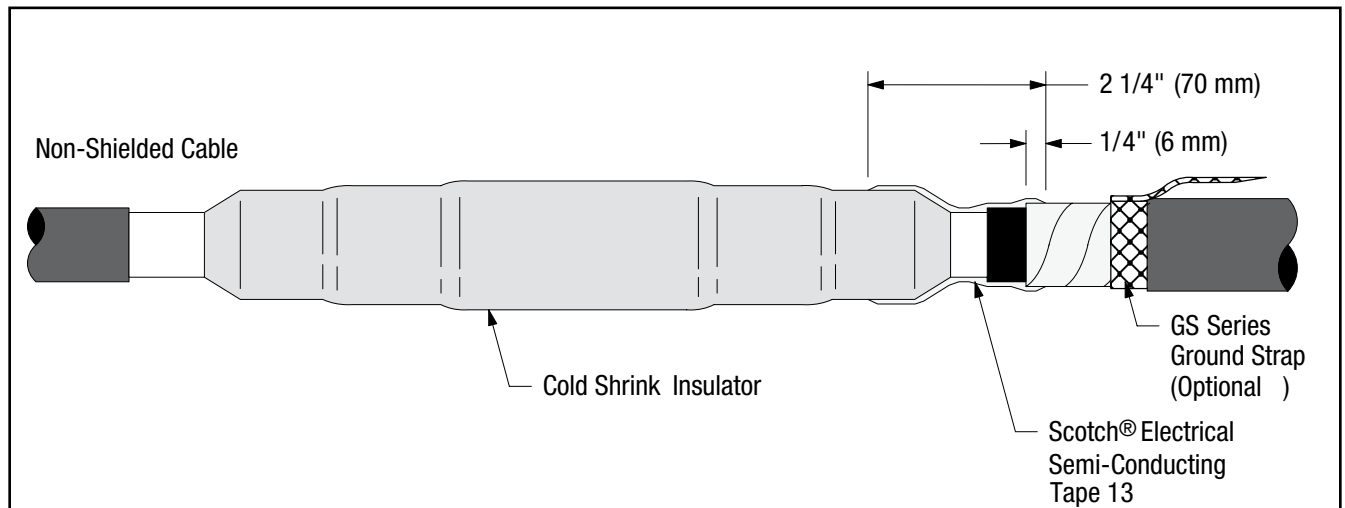

Figure 13
- Starting 1/4" (6 mm) cable's metallic shielding (i.e. tape, wire or UniShield®) apply 2 half-lapped layers of Scotch® Semi-Conducting Tape 13 over the end of the cold shrink insulator for a total wrapped distance of 2 1/4" (70 mm) (Figure 13).